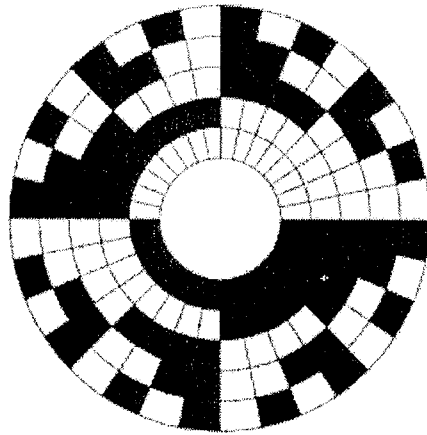

Fig. Q3
- d) Figure Q3 shows an encoder disk employed in a robotic joint position sensing system.